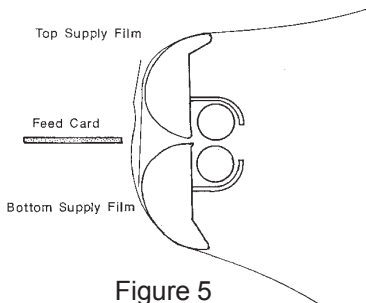

Figure 5
2. Pull 6"-12" of film from the top roll. Pass the film under the idler bar and over the heat shoes. Make sure the shiny side of the film is against the shoes. See Figures 5 & 6 below.
4. Pull 6"-12" of film from the bottom roll. Pass it under the lower idler bar and drape the film from the bottom roll over the film from the top roll. Since the heat shoes are hot the bottom film will adhere to the top film. See Figures 5 & 6 below.
6. Feed a piece of thin cardboard about 10" x 25" against the film so that it is centered between the two Heat Shoes. Push the cardboard and film into the Laminating Rollers. See figure 5.